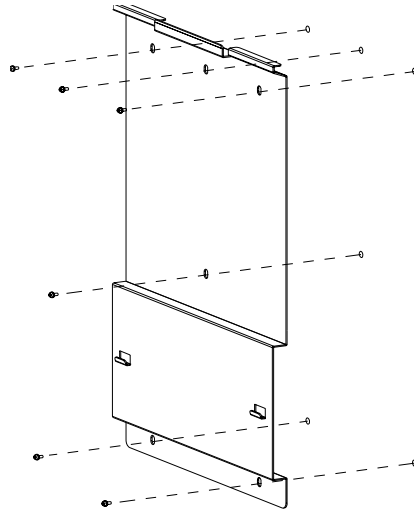

Figure 3-5 Positions of bolt holes on the bracket
- (c) Take the mounting bracket out of the package and secure the bracket on the wall with the 6 nuts in pair as shown in Figure 3-5;